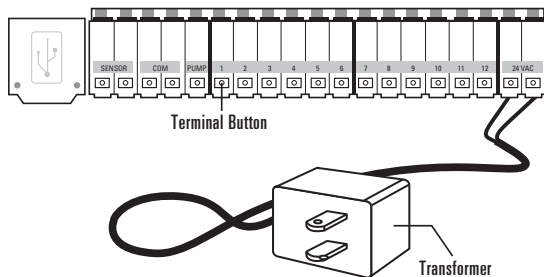

Figure 6: Connecting the Transformer
- Find the two sockets at the bottom of the docking port labeled “24VAC.” (See Figure 6)